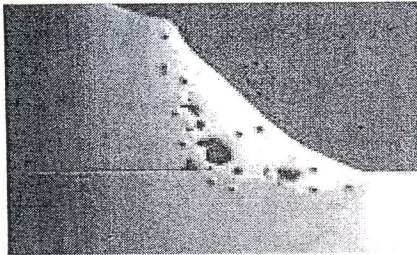

Figure 1
- a) The visual examination of joint fit-up is given highest priority prior to welding. List eight (8) Items that may be considered prior examination of joint fit-up (08 marks)
- b) Give SIX (6) typical discontinuities found in weldment. (06 marks)
- c) Figure 1 above shows voids in weld metal due to entrapped gas, these voids are considered defect in welding. Identify the defect shown and list three (3) possible causes of this defect in SMAW process. (06 marks)